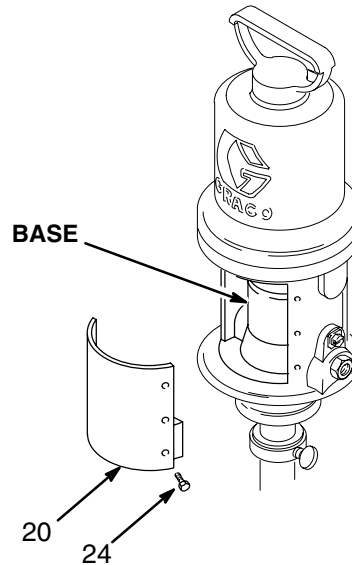

Fig. 13
2. Remove the six screws (24) using a 1/4" nut driver. Remove the muffler plate (20). See Fig. 13.
5. Replace the muffler cover, and the six screws. See Fig. 13.